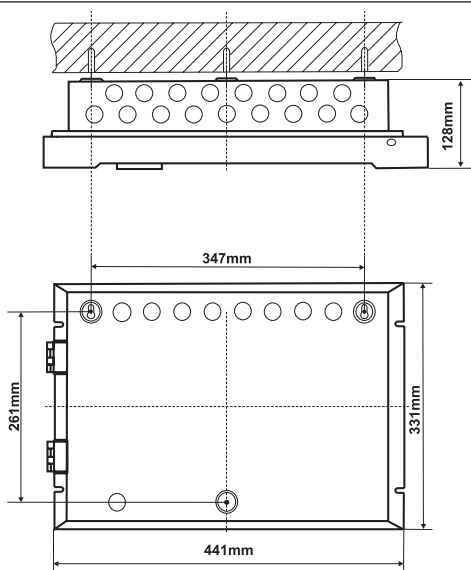

Figure 5.
- Drill Ø6-8mm diameter openings in the wall and fix the box using the provided anchors and screws (Positions 2 and 4, page 31) - Figure 5.